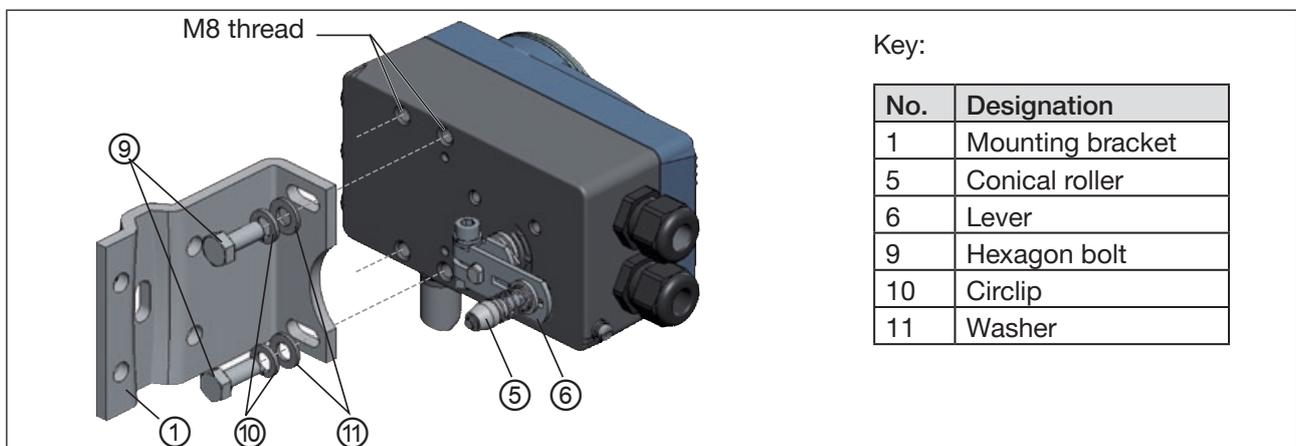

Figure 12: Attaching the mounting bracket
→ Attach mounting bracket ① with hexagon bolts ⑨, circlips ⑩ and washers ⑪ to the rear side of Type 8792/8793 (see “Figure 12: Attaching the mounting bracket”).
The conical roller on the lever of the positioner must be able to move freely in the hoop (see “Figure 12: Attaching the mounting bracket”) along the entire stroke range of the actuator. The lever position should be almost horizontally when the stroke is 50% (see chapter “11.2.4 Aligning the lever mechanism”).